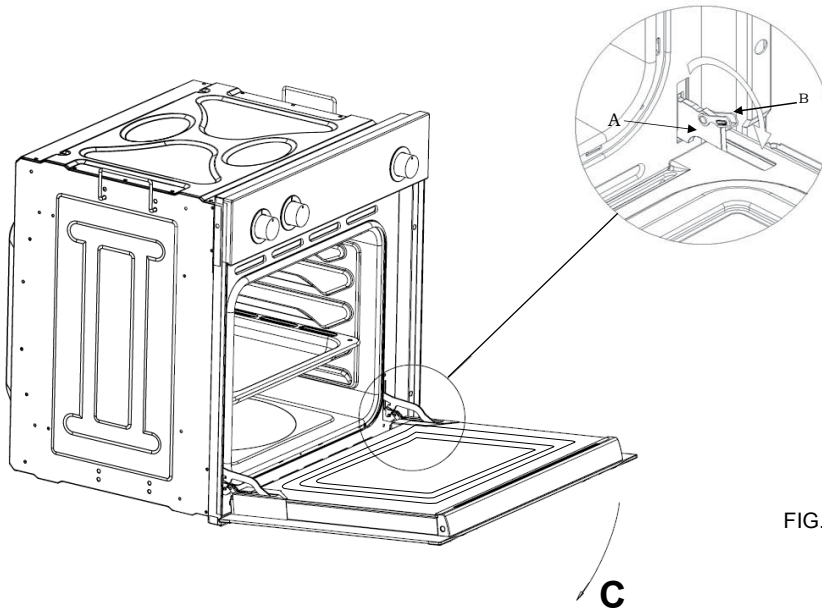

FIG.2
Removing the door from the oven (Fig.2)
- > Remember to turn the two moving links "B" used to engage the two hinges before closing the door (Fig. 2).